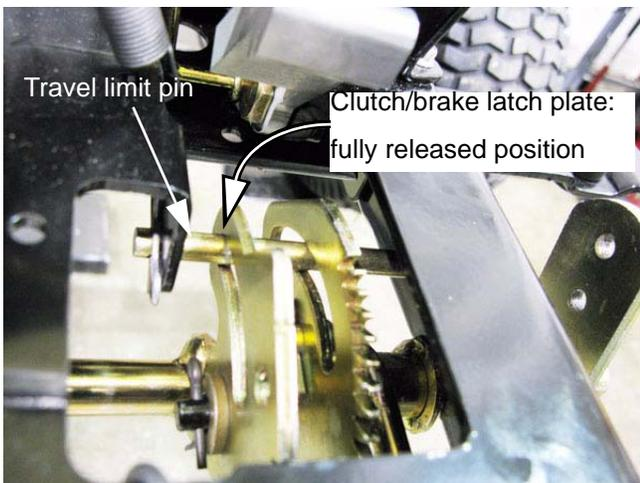

Figure 6.9
2. Visually inspect the linkage to confirm that it functions properly. See Figure 6.9.
- The travel limit pin should be resting against the front of the curved slot. See Figure 6.9.